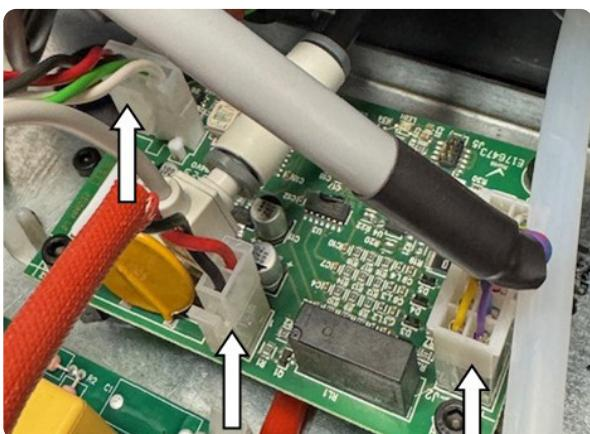

Fig. 5
- ◆ Connect the remaining 16-pole connector of the 5587493 (pos.2) connection to the J2 connector of the 5602702 (pos.1) CNC interface circuit, as shown in Fig.5.
- ◆ Connect the 4-pole connector of the 5587505 (pos.3) connection to the J3 connector of the 5602702 (pos.1) CNC interface circuit, as shown in Fig.5.
- ◆ Connect the 2-pole connector of the 5582932 (pos.4) connection to the J1 connector of the CNC 5602702 (pos.1) interface circuit, as shown in fig.5;